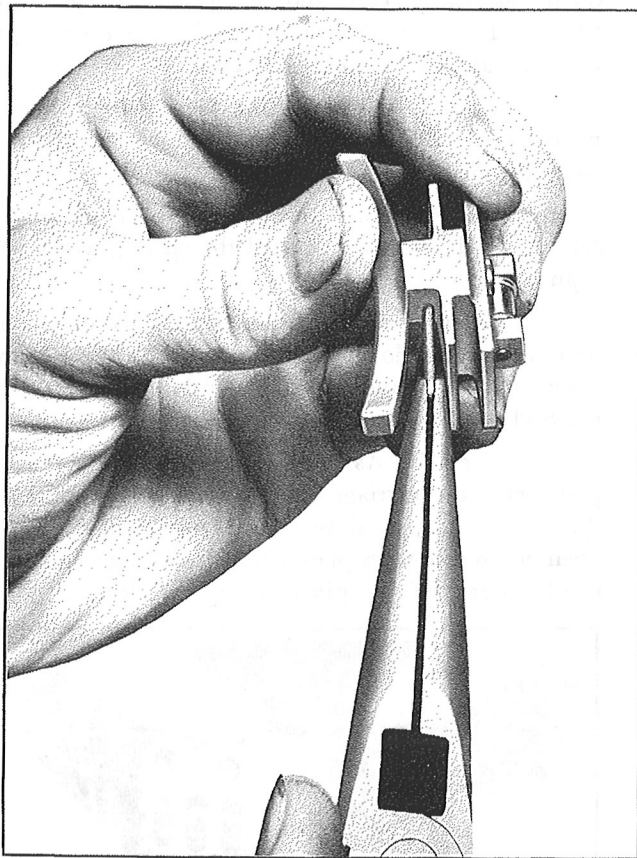

Figure 200—Removal of the Governor Shoe
*Step 6.*—Remove the governor shoe cotter key and withdraw the shoe from the carriage. See Figure 200.